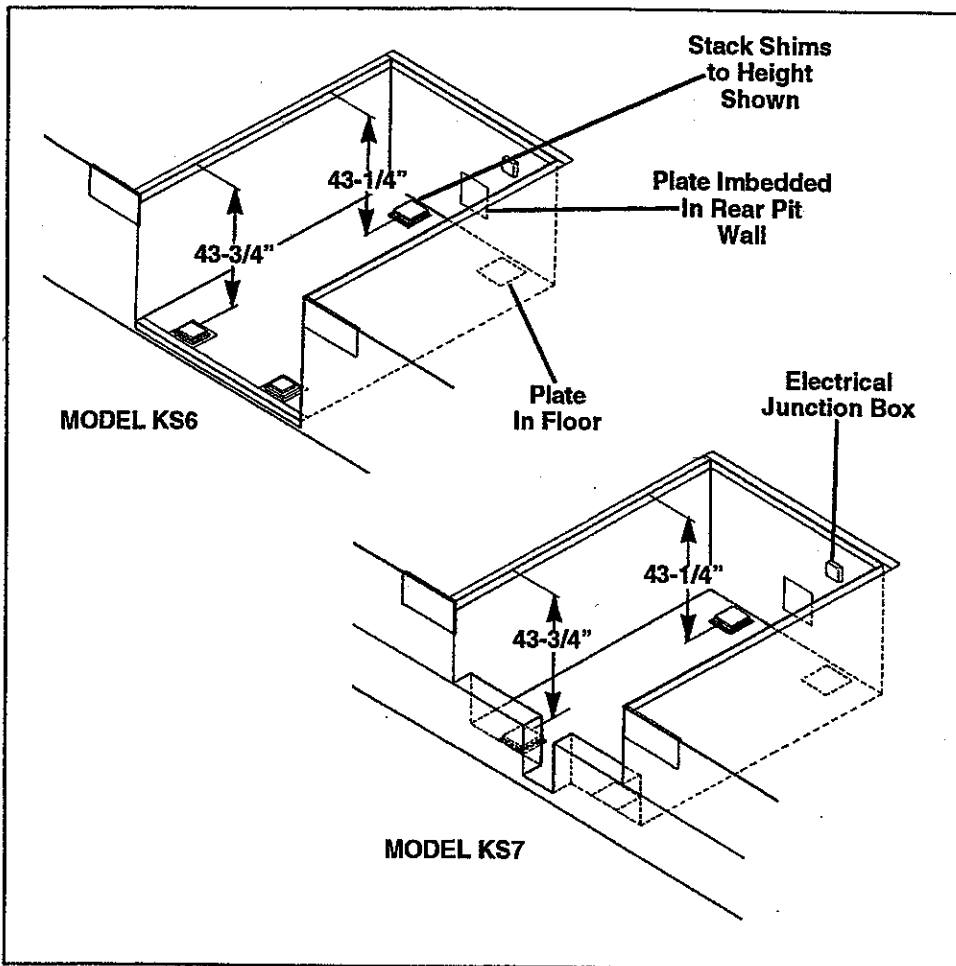
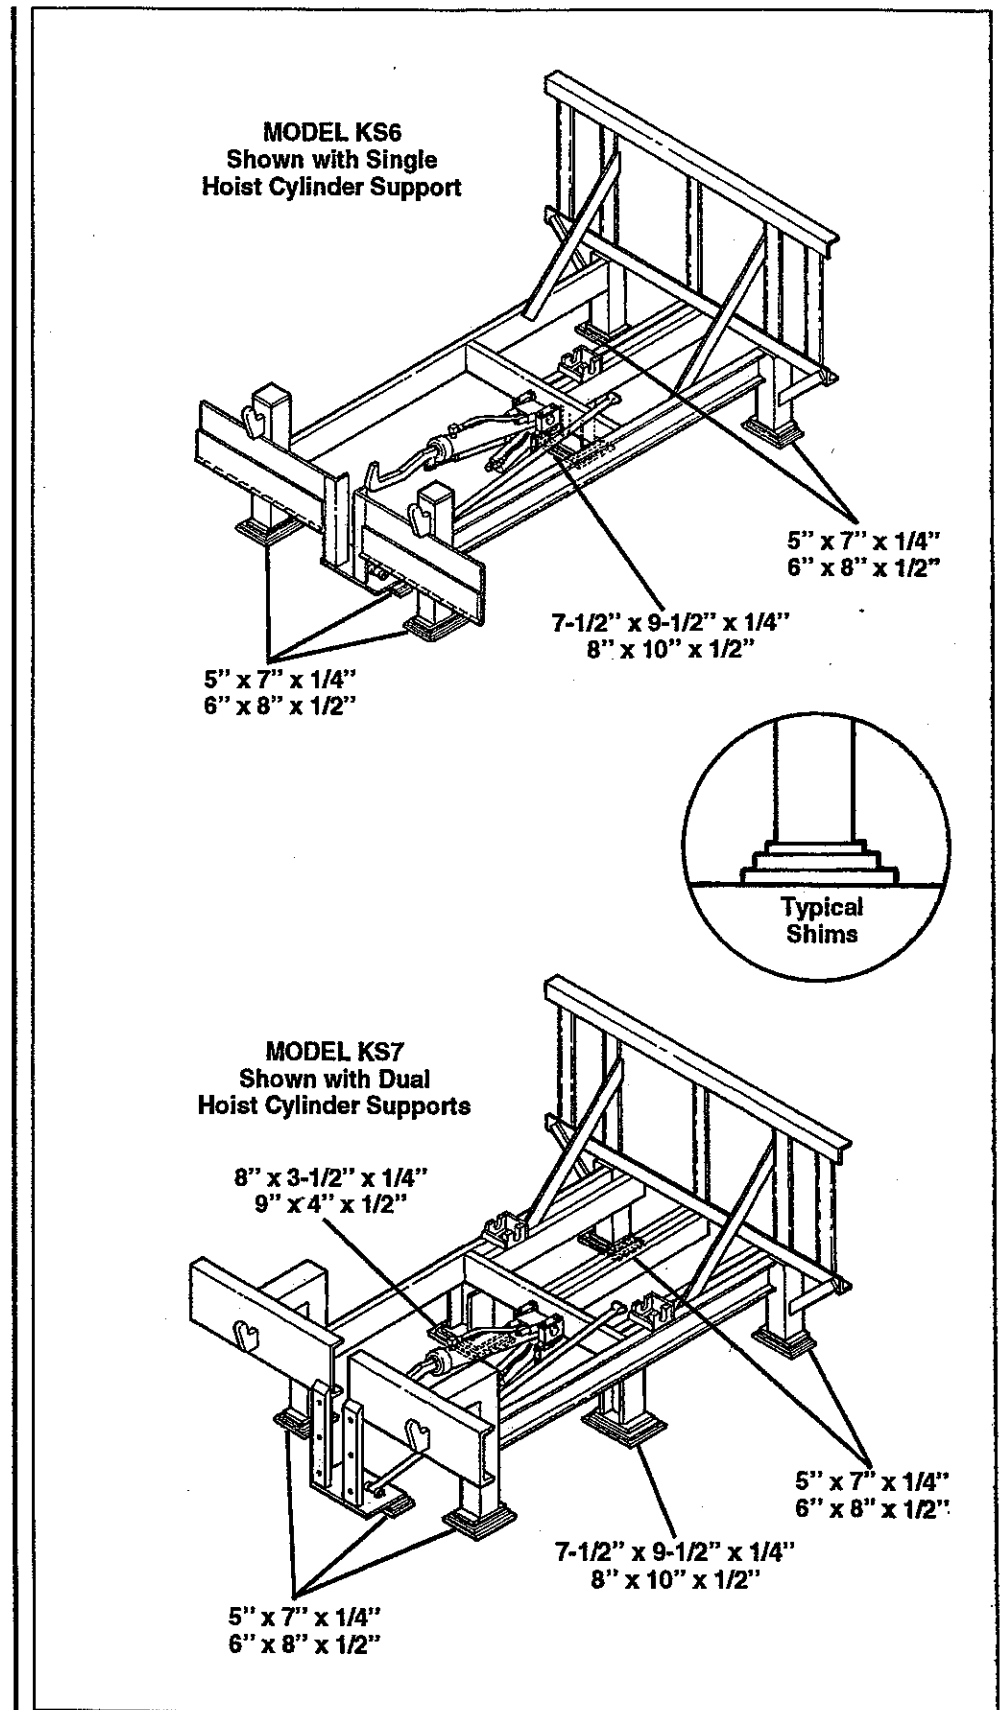

Fig. 17. Shim Height
Fig. 18. Shim Sizes and Locations
4. Place the shims for the front and rear legs on the plates imbedded in the pit floor. Position the shims so that the legs will rest firmly on the shims when the unit is lowered into the pit. Shim so that dimension from top of shims to dock floor is as shown in Figure 17. Recommended shim stock sizes are given in Figure 18.
8. Position shims under the hinge tubes of the maintenance prop so that the front panel support weldment is level. Recommended shim stock sizes are given in Figure 18. DO NOT weld shims.
14. Refer to Figure 18. For POWERHOOK KS6 units only: Tack weld the shims under the front legs to the legs, the plates imbedded in the pit floor, and to the pit front curb angle. This should be done from outside the pit prior to raising platform.
17. Refer to Figure 18.